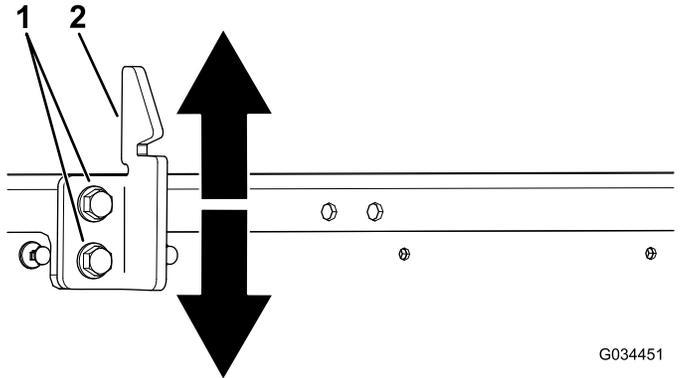

Figure 56
3. Loosen the 2 bolts on the bed-latch striker and move the striker up or down, depending on if the striker is too high or too low (Figure 56).
4. Tighten the 2 bolts on the bed-latch striker (Figure 56).